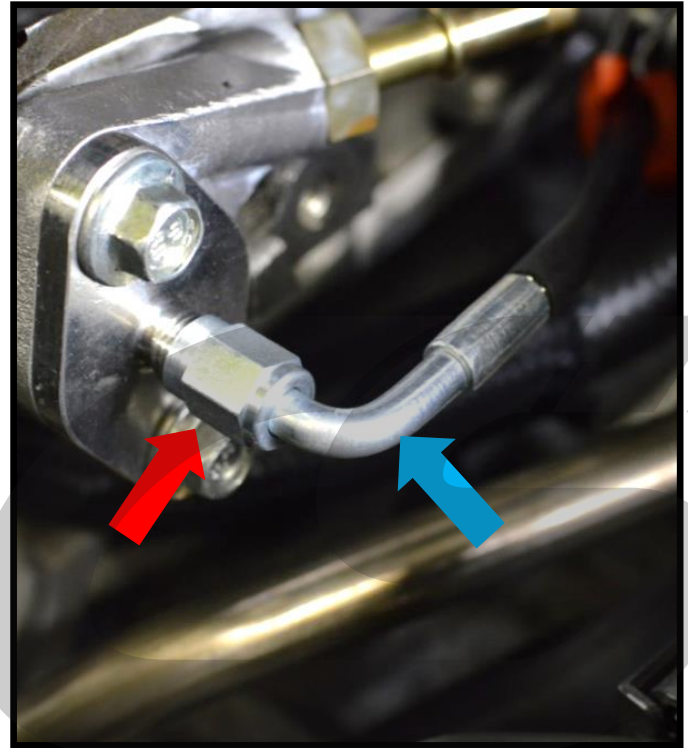

Figure 8c
g) **Thread the fuel line onto the CorkSport fuel rail cap.** Use a 11mm wrench for the **red arrow** and hold the fuel line at the **blue arrow** to keep the fuel line from rotating. **Torque to 15-18ft-lbs or 1/2 turn past snug (shown in Figure 8c).**